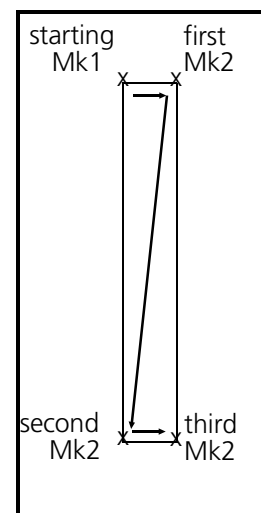

Figure 6-35
- #1 Start with a Mk1 to identify the beginning of one side of the column, shown as the starting Mk1 in Figure 6-35.
- #2 Enter a Mk2 at the beginning of the other side of the column, shown as the first Mk2 in Figure 6-35.
- #4 Enter a Mk2 at the end of the other (or second) side of the column (see third Mk2 in Figure 6-35) This Mk2 ends the column stitching sequence.